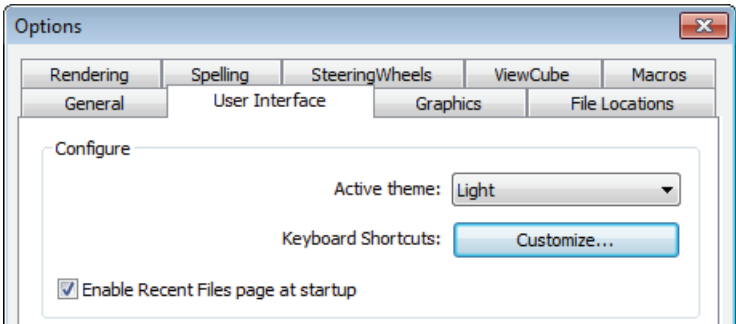

Figure 1–9
- 3. In the Keyboard Shortcuts dialog box, use the *Search* or *Filter* options to narrow the search, as shown in Figure 1–10.